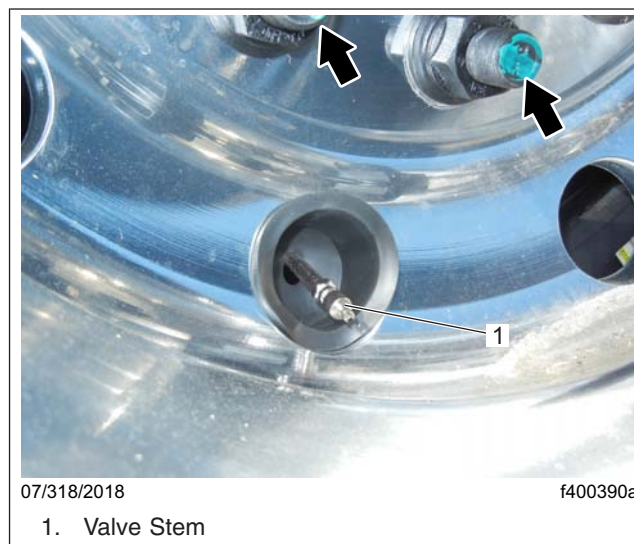

Fig. 8, Marking Wheel Studs
5. Mark the two studs closest to the valve stem as shown in **Fig. 8**, for proper wheel assembly location when reinstalling the wheel assembly on the hub.